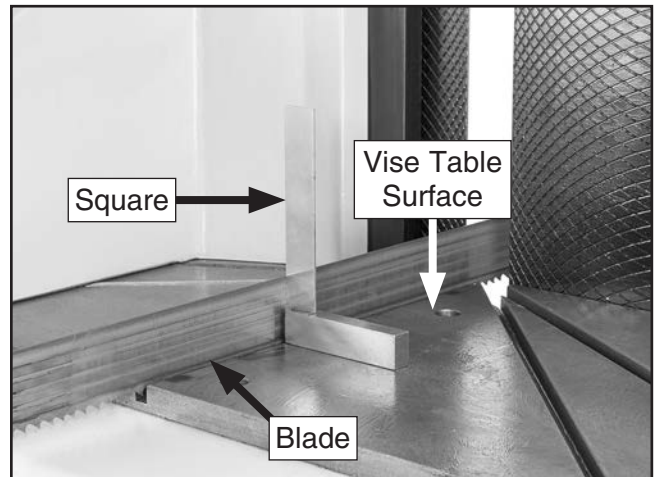

Figure 108. Checking blade-to-table squareness.
6. Place machinist's square on vise table surface and against edge of blade (see **Figure 108**). Check for squareness at different points along length of vise table between blade guides.